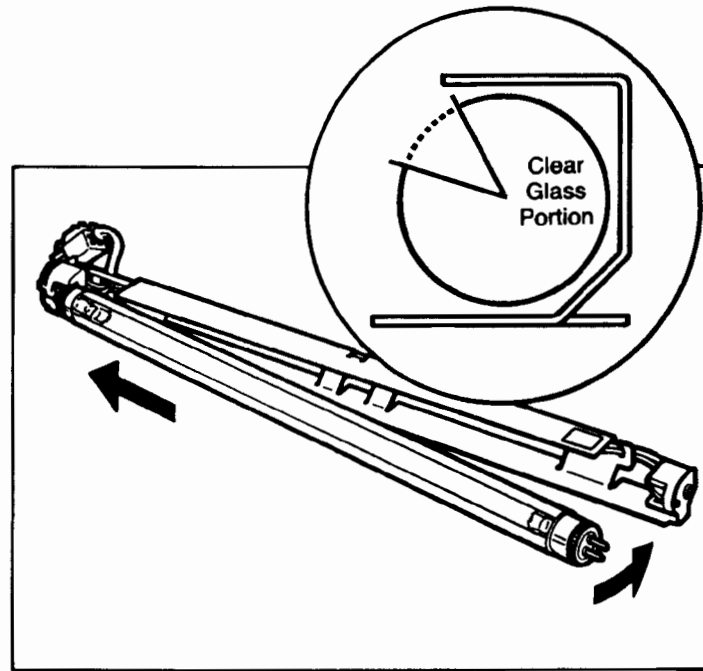

Figure C-13. Inserting the New Lamp
12. Insert the new lamp into the lamp holder, making sure the clear portion of the glass faces out from the lamp holder. See figure C-13.